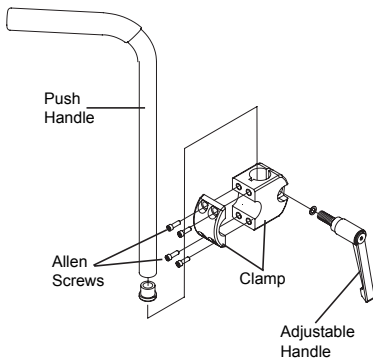

Figure 36
2. Assemble the two halves of the clamp around the rigidizer bar. See Figure 36.